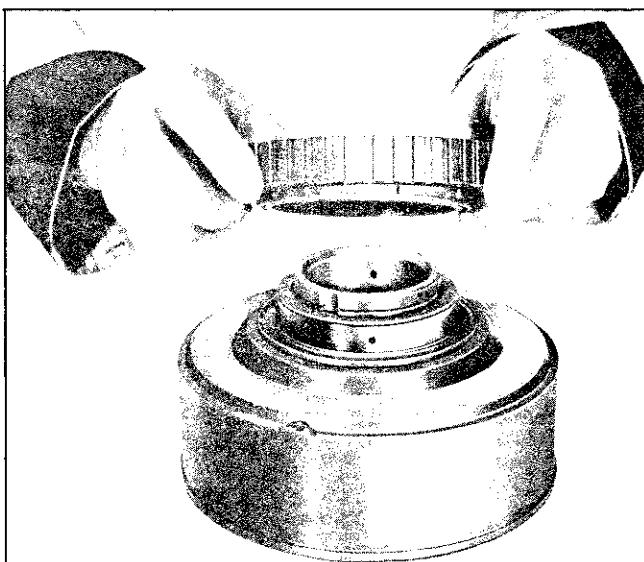

Fig. 7E-103 Installing Intermediate Sprag to Direct Clutch
14. Install sprag bushing over sprag, cup side down (Fig. 7E-104).